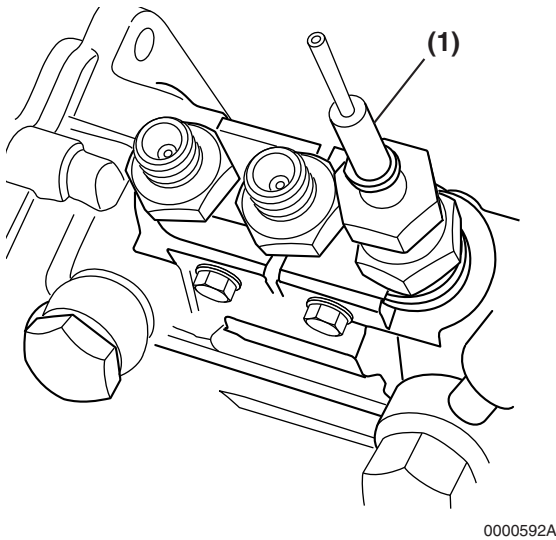

Figure 7-28
13. Install the “spill-timing” tool (**Figure 7-28, (1)**) onto the delivery valve for the cylinder being checked. See *Measuring Instruments on page 7-8*.